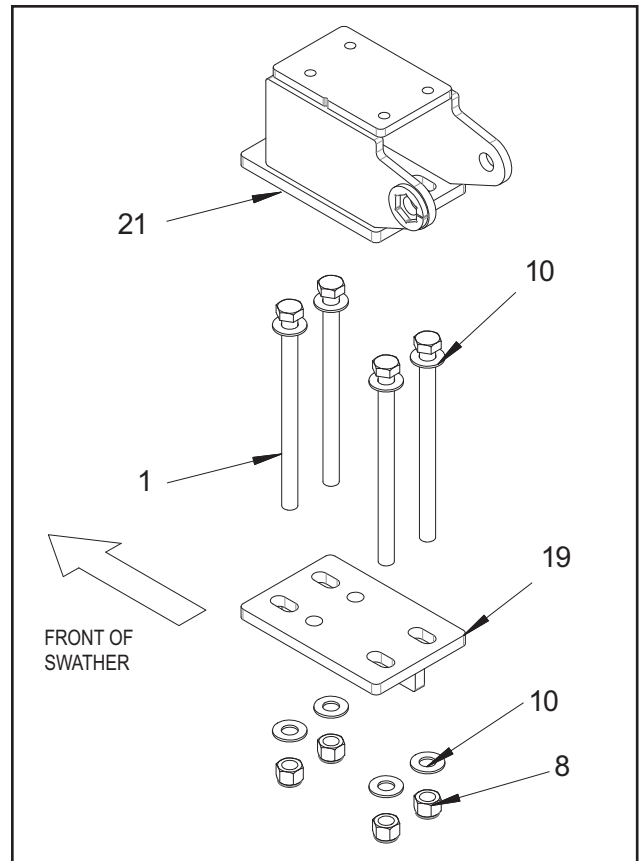

Figure 2.1 - Tower Mounting
Refer to *Figure 2.1* for this step. Locate the two tower mounts (#21) and the tower mount plates (#19).
1. Secure the towers (#21) to the swather's rear axle on the left and right sides. Check that the hole pattern on the top of the tower is oriented as shown on *Figure 2.1*. As well, ensure the tower mount plate (#19) is oriented as shown. Bolt each tower onto the axle using the tower mount plate (#19) and four (4) of the supplied 5/8" x 9" bolts (#1) and 5/8" locknuts (#8). Place 5/8" SAE washers (#10) between the bolt head and the mount, and again between the plate and nut. **DO NOT TIGHTEN.** Leave the nuts loose enough to position the tower prior to final assembly.